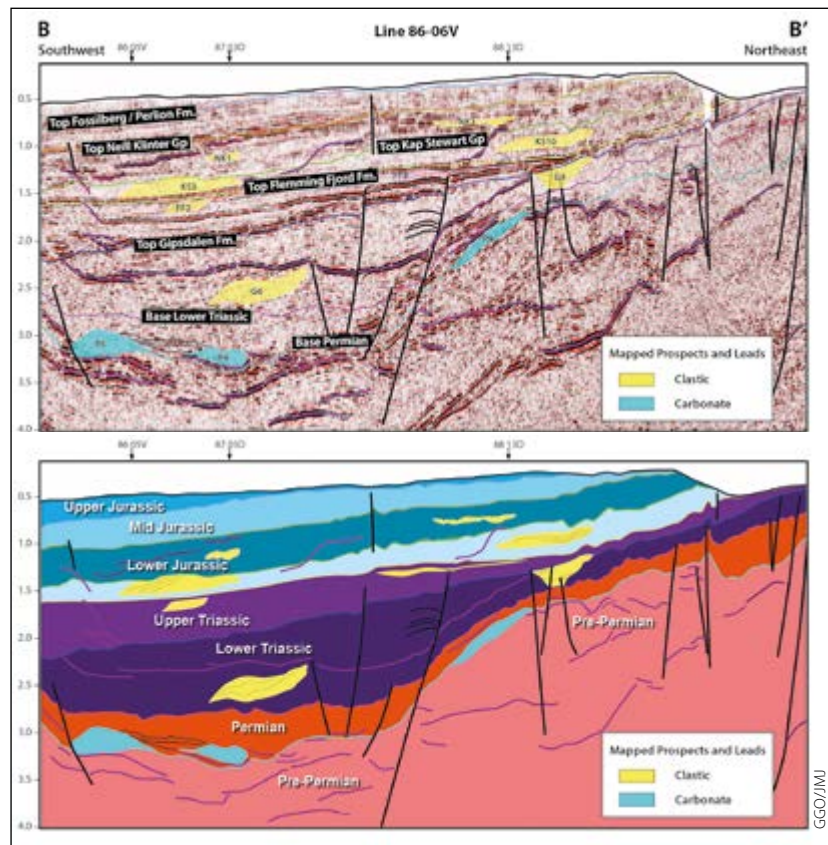

Figure 4: Reprocessed seismic line 86-06V and interpreted section, showing both clastic and carbonate prospects and leads. Location of line shown in Figure 3.
Figure 3: Data availability for the Jameson Land Basin. A indicates the location of an oil-filled belemnite from the 'Blokelv' core at a depth of 105.25m. B is the location of the seismic line shown in Figure 4.
- Multiple play systems with the potential for stacked clastic reservoirs ranging in age from the Carboniferous to Jurassic, and Upper Permian carbonate build-ups and reefs (Figure 4);
- Numerous exploration opportunities have been identified throughout the sedimentary section of the basin (Figure 4);
Figure 4: Palaeozoic character and potential observed in the Bilby data (depth). a: The offshore extension of the Devonian Reef complexes. b: Generalised Palaeozoic character highlighting the Devonian, Carboniferous and Permian sedimentary sequences. The Laurel Fm, Reeves Fm, Grant Group and Noonkanbah equivalents highlighted remain untested in the area. 'S' means potential source; 'R' means potential reservoir.